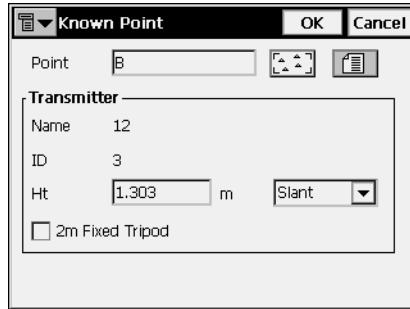

Figure 6-10. Enter Transmitter's Position
7. On the *Known Point* screen, enter the following information and tap **OK** (Figure 6-10):